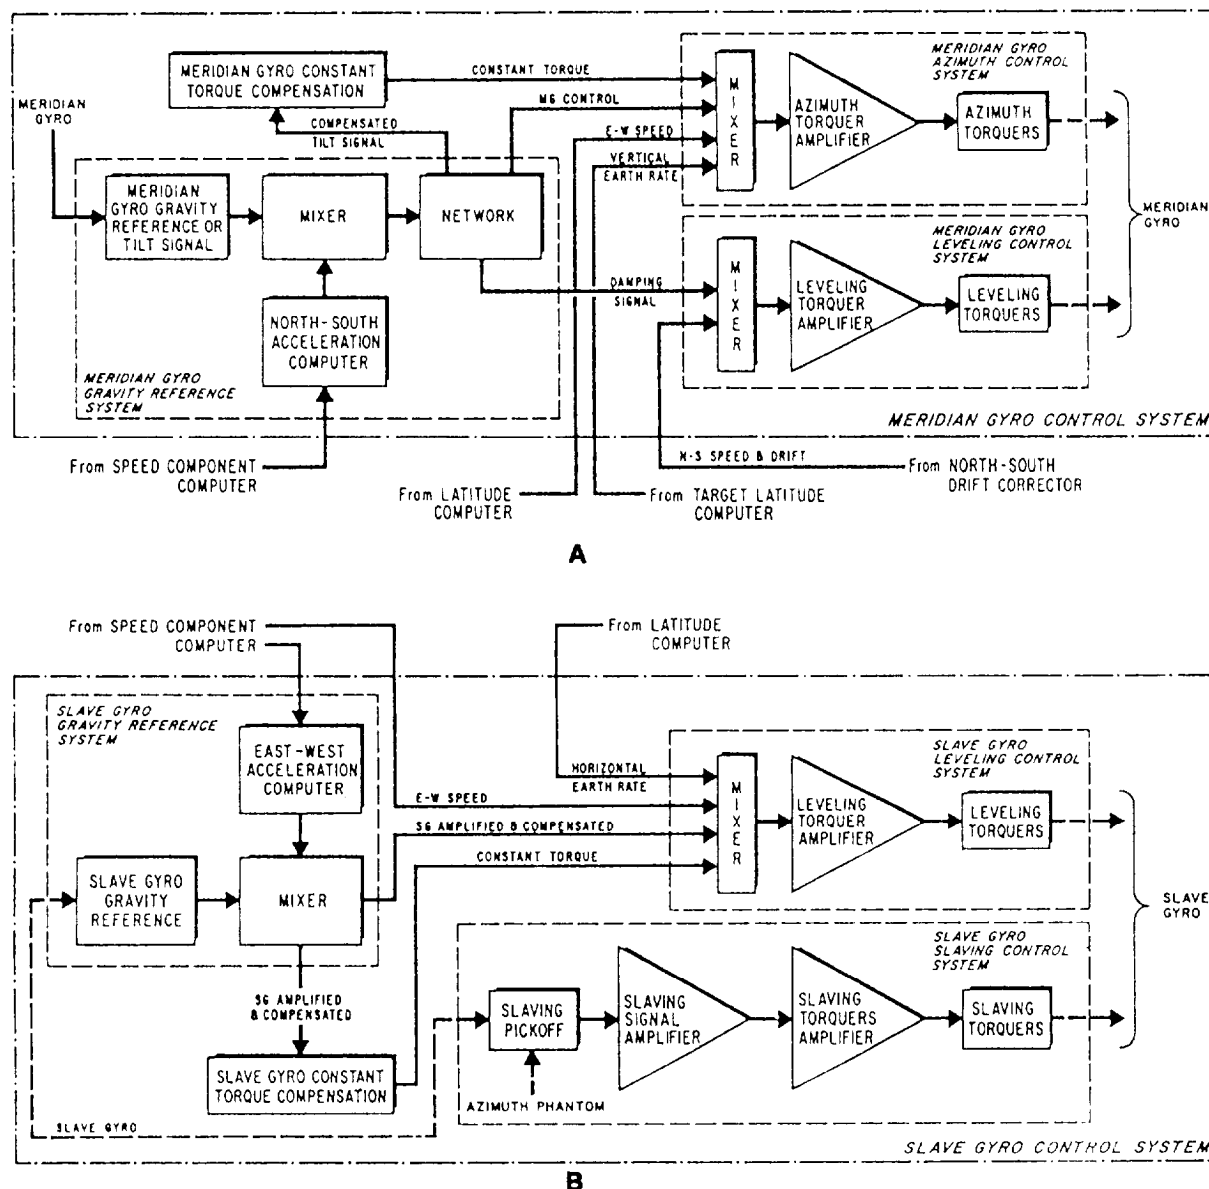

Figure 4-26.—A. Meridian gyro control system. B. Block diagram of a slave gyro control system.
All controls for the Mk 19 Mod 3A gyrocompass system (fig. 4-26, views A and B) are contained in four
**MERIDIAN GYRO GRAVITY REFERENCE SYSTEM.**— The gravity reference system (fig. 4-26, view A) consists of the meridian gyro gravity reference (the electrolytic bubble level and excitation transformer), the north-south acceleration computer, a mixer, and its associated network.
**MERIDIAN GYRO AZIMUTH CONTROL SYSTEM.**— The azimuth control system consists of a mixer, an azimuth torque amplifier, and the azimuth torquers. (See fig. 4-26, view A.) The mixer input signals are the meridian control signal from the gravity reference system, an east-west speed signal from the tangent latitude computer, and a vertical earth rate compensation signal from the latitude computer. The azimuth torque amplifier output is fed to the control fields of the two azimuth torquers, which apply torque to precess the meridian gyro, toward the meridian, in the same manner as described in the Mk 23 system.
**MERIDIAN GYRO LEVELING CONTROL SYSTEM.**— The meridian gyro leveling control system (fig. 4-26, view A) consists of a mixer, the leveling torque amplifier, and the leveling torque. The input signals to the mixer are the damping signal from the gravity reference system, and the north-south speed plus drift compensation signal. The amplifier output supplies the leveling torque control field, which produces the torque to level the meridian gyro.
The slave gyro control system (fig. 4-26, view B) consists of the slave gyro gravity reference, leveling control, and slaving control systems, and the slave gyro constant torque compensation.